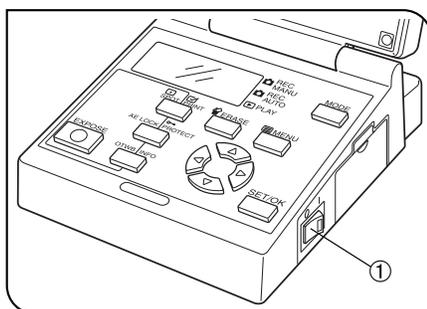

Fig. 7
Ⓞ After installing the SmartMedia, press the main switch ① of the control box to turn it ON. (Fig. 7)